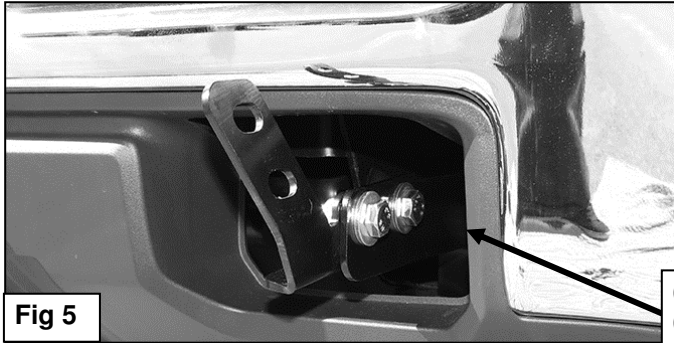

Fig 5
- Next, select the driver side Bull Bar Mounting Bracket. Attach the Bull Bar Bracket to the inside of the Frame Bracket with the included (2) 10mm x 30mm Hex Bolts, (4) 10mm Flat Washers and (2) 10mm Nylon Lock Nuts, **(Figure 5)**. Leave hardware loose at this time. **NOTE:** On some models, it may be possible or simpler to bolt the Frame and Mounting Brackets together first and install as one piece.